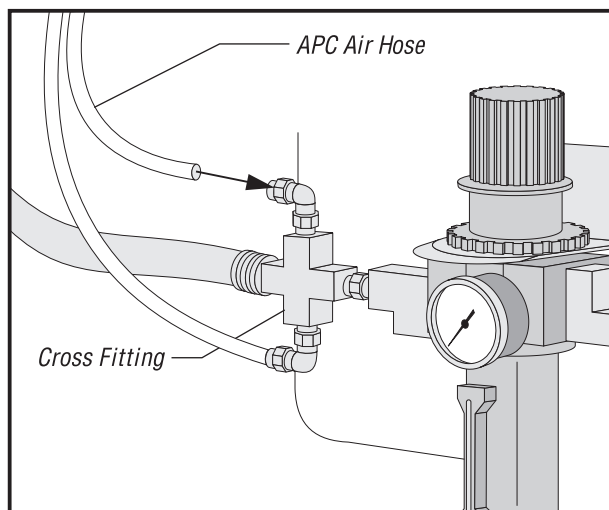

Figure 11.28 APC air hose connection to VMC air/lube cross fitting.
21. Screw the air blast hose into the APC. Remove the piece of tubing from the top fitting of the VMC lube/air panel cross fitting, and replace it with the APC air hose (see Figure 11.28).